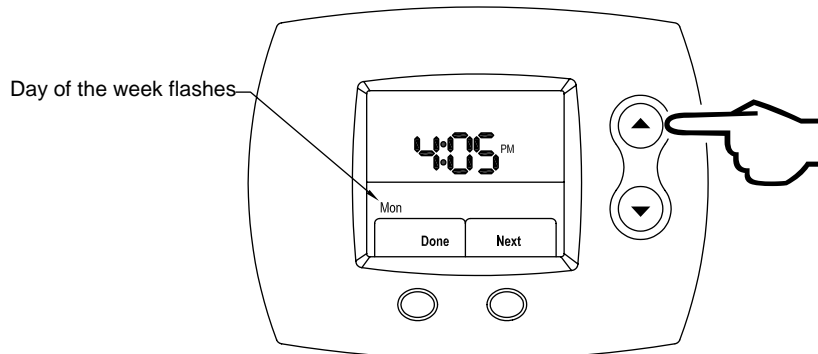

Figure 46
Step 9: Finally, select the day. A day will be flashing initially. Using the **UP** (increase one day) or **DOWN** (decrease one day) buttons, change the day until the correct day is shown. See Figure 46.